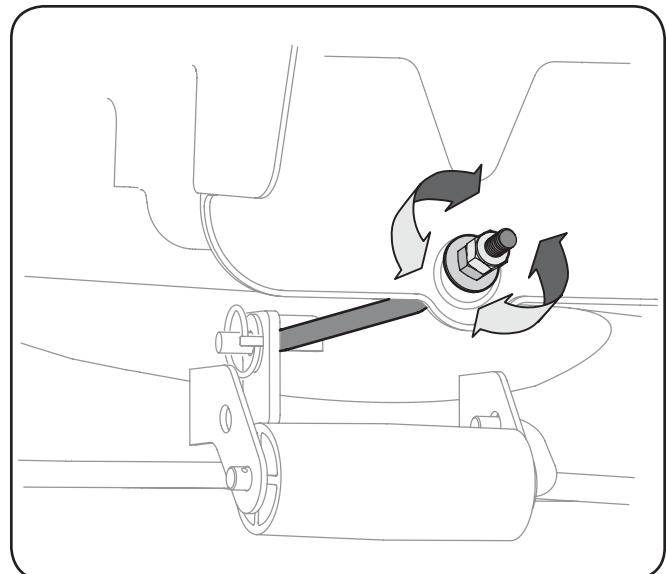

Figure 6-5
1. Loosen (thread outward) the hex lock nut on the end of the deck hanger rod. See Fig. 6-5.
3. To lower the front of the deck, loosen (thread outward) the hex nut, away from the front hanger bracket. See Fig. 6-5.